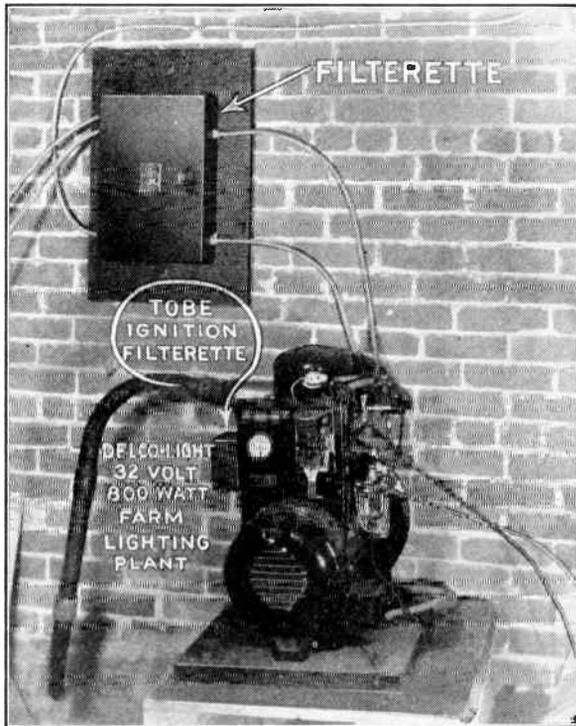

Fig. 3
A. No. A special, two-section Filterette known as type DM-32 has been designed for application to the Delco 32 volt 800 watt lighting plant. This Filterette and its installation are shown in Figures 3, 4 and 5.